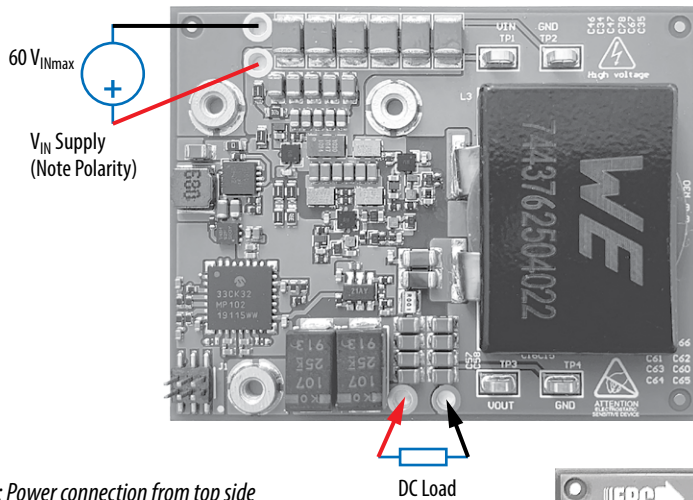
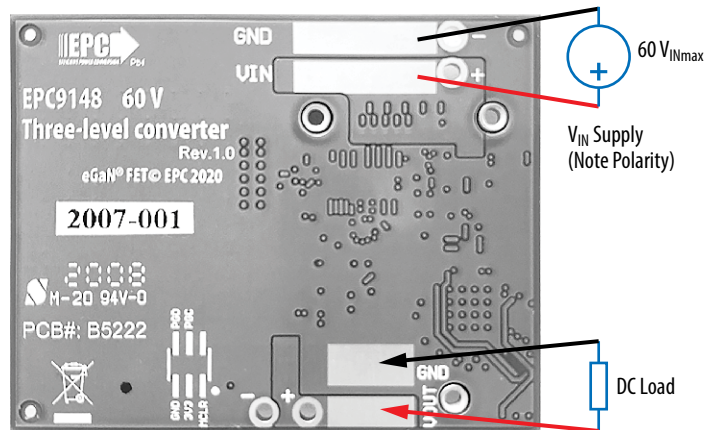

Figure 2: Power connection from top side
Figure 3: Power connection from bottom side
1. With power off, connect the input power supply to V_{IN} and GND as shown in Figure 2 from top side or as in Figure 3 from bottom side.
2. With power off, connect the load to V_{OUT} and GND as in Figure 2 from top side or as in Figure 3 from bottom side.